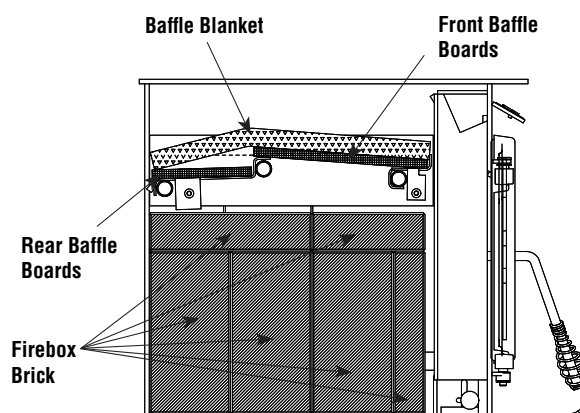

Figure 16
4. The final step of the baffle board and baffle blanket installation will be installing the front baffle boards. The front baffle boards will be the two remaining baffle boards which are the larger two baffle boards of the four baffle board kit. They will be installed with the 9-5/8" dimension from the front to rear of the firebox. Start by setting the back side of the board on the rear baffle making sure that it is placed far enough back to lift up and onto the front baffle. Next you will place the front edge of the front baffle boards on the top side of the front baffle and slide them towards the firebox front until it stops against the front baffle edge. You will do this with each front baffle board with one to the right side of the firebox and one to the left side of the firebox. Confirm that the baffle blanket is directly on top of the baffle boards and that it does not protrude beyond the front baffle or front baffle boards as shown in **Figure 16**.